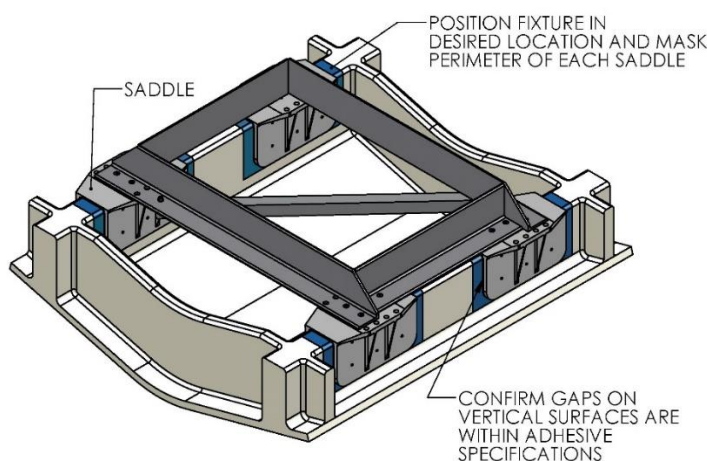

FIGURE 11 - MASKING PERIMETER OF SADDLES
- 2) Mask hull area (Fig 11) around foundation saddles for easy clean-up and to create outline of surface area to receive adhesive. Insure that the bond gap is within Seakeeper's recommended thickness, or 3 mm if using Plexus MA590.